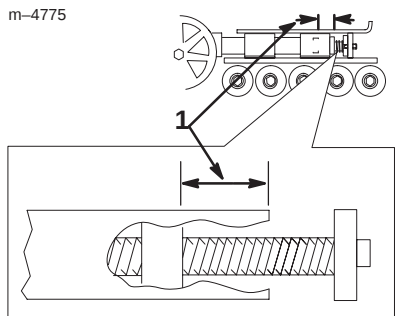
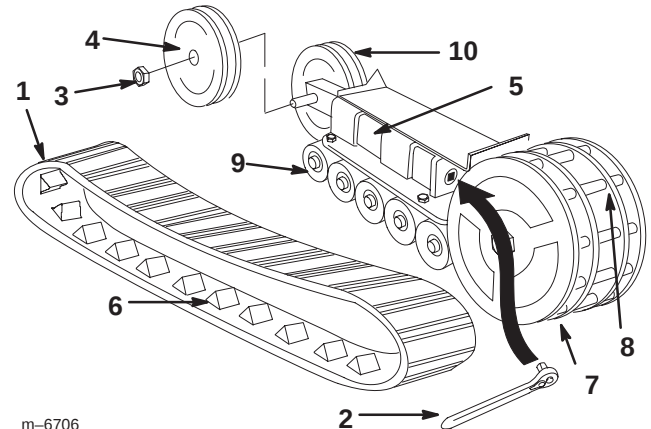

Figure 32
Figure 35
Check and adjust the track tension every 100 operating hours. There should be 2-3/4 inches (7 cm) between the tension nut and the back of the tension tube (Fig. 32). If not, adjust the track tension using the following procedure:
4. Using a 1/2 inch drive socket (Fig. 35), turn the tensioning screw counter-clockwise until the distance between the tension nut and the back of the tension tube (Fig. 32) is 2-3/4 inches (7 cm).
- Turn the tensioning screw counter-clockwise until the distance between the tension nut and the back of the fork tube (Fig. 32) is 2-3/4 inches (7 cm).
- Push the tension wheel toward the rear of the unit to move the tension tube against the frame (Fig. 35). (If it does not touch the frame, continue turning the tensioning screw until it does.)
- Remove the nut securing the outer tension wheel and remove the wheel (Fig. 35).
- Remove the track (Fig. 35).
- Remove the nut securing the inner tension wheel and remove the wheel (Fig. 35).
- Install the inner tension wheel and secure it with the nut removed previously (Fig. 35).
- Install the new track, ensuring that the lugs in the track fit between the spacers in the middle of the drive sprocket (Fig. 35).
15. Install the outer tension wheel and secure it with the nut removed previously (Fig. 35).
17. Turn the tensioning screw counter-clockwise until the distance between the tension nut and the back of the tension tube (Fig. 32) is 2-3/4 inches (7 cm).